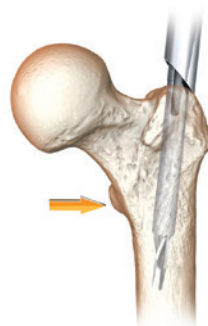

Figure 10
9. Adjust the trajectory of the reamer assembly if desired and advance to the positive stop on the Entry Portal Tube. The channel reamer will stop just below the level of the lesser trochanter (Figure 10).